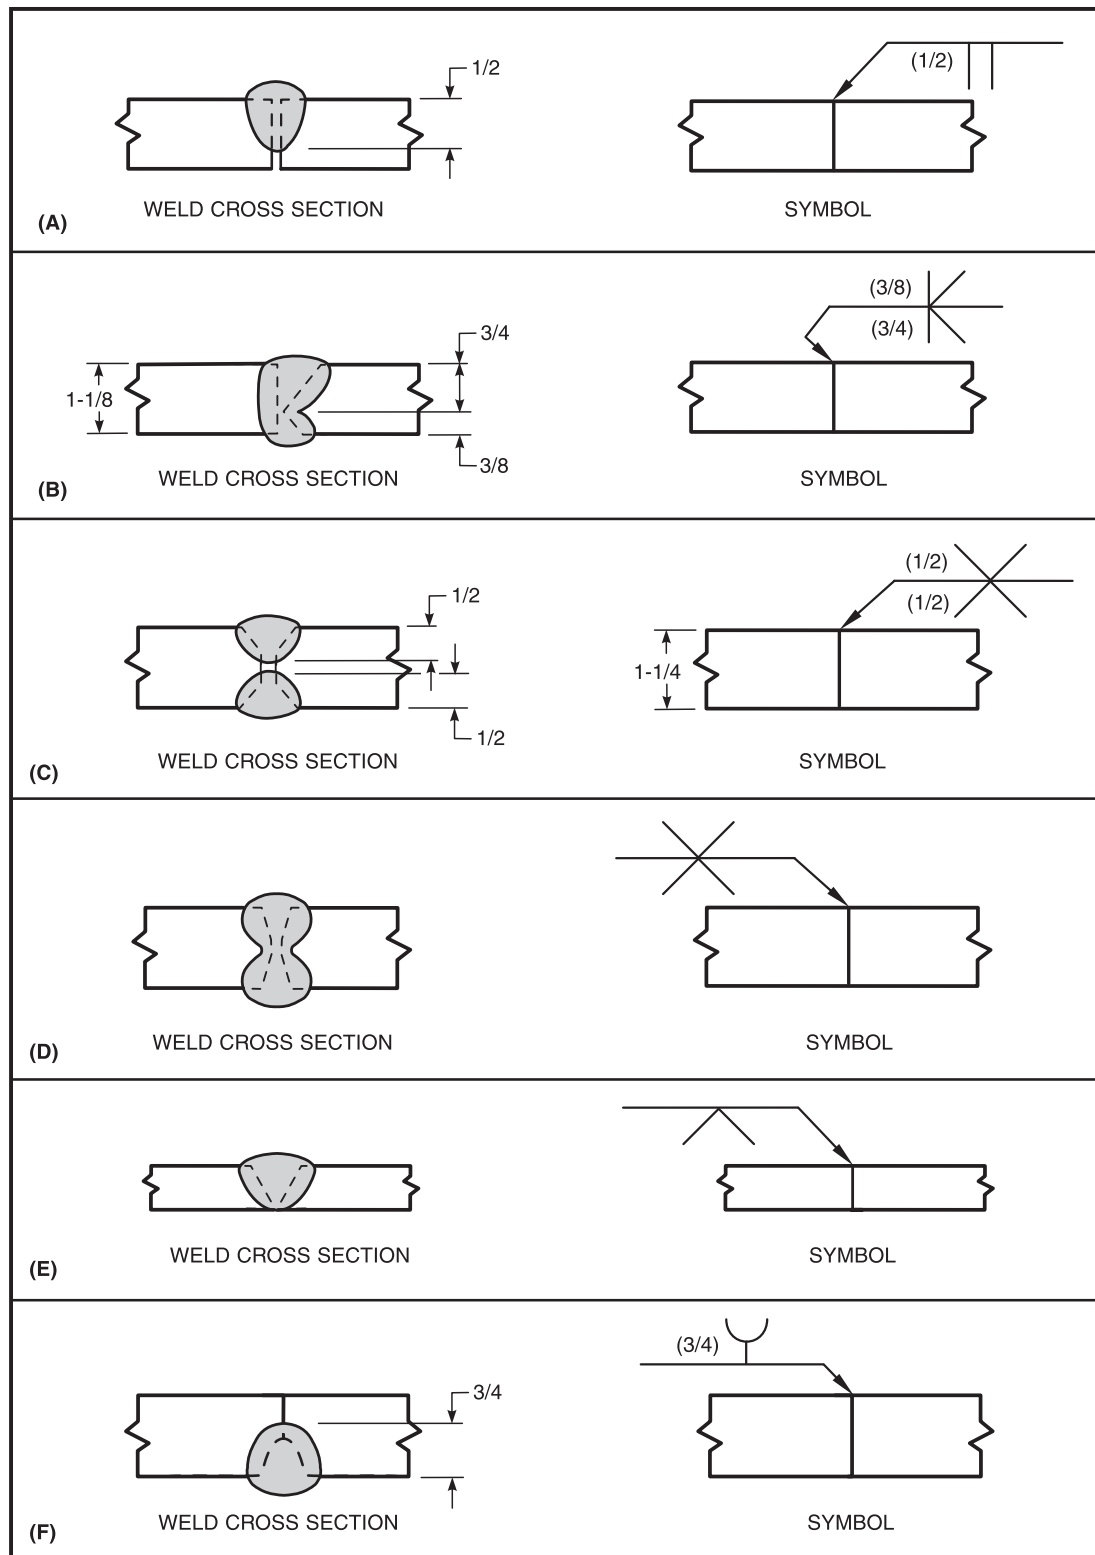

Figure 12—Specification of Groove Weld Size, Depth of Groove Not Specified
**7.1.1 Single-Groove Dimensions.** Groove weld dimensions shall be specified on the same side of the reference line as the weld symbol [see Figure 12(A) and (F)].
**7.1.3.1 Broken Arrow.** A broken arrow is used, when necessary, to specify which member is to have a bevel- or J-groove edge shape for single- or double-bevel and single- or double-J-groove welds [see 6.4.1 and Figure 12(B)].